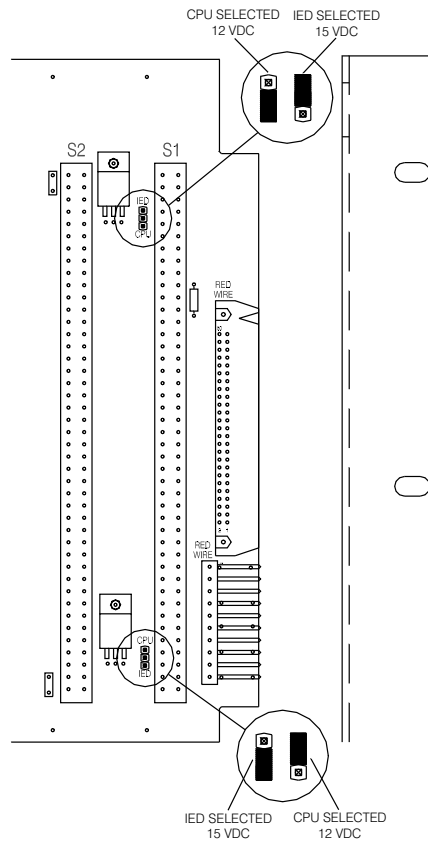
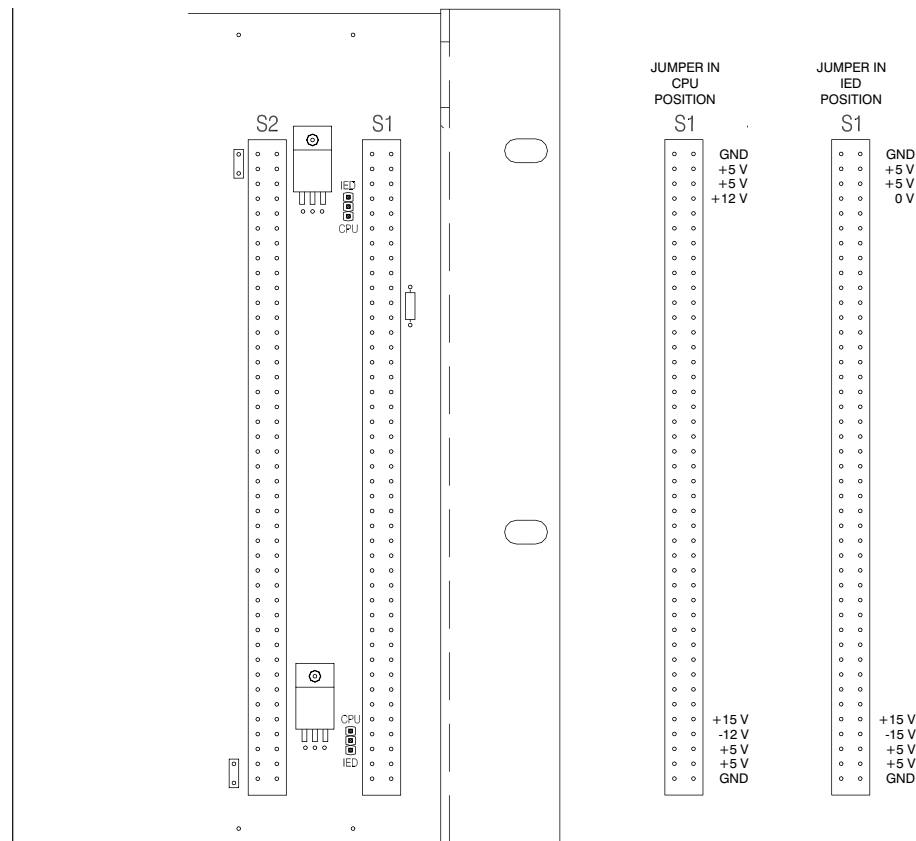

Figure 1 - CPU Card Voltage Jumpers on 500M Motherboard near slot 13
Figure 2 - CPU Card Voltages
6. The 500M has 13 usable slots. The card slots are numbered from 1 to 13 with slot 1 being on the left as viewed from the front. Slot 13, the rightmost slot is the only slot in which the 510CPU can be mounted. The 510CPU requires ± 12 VDC. All other cards in the system operate on ± 15 VDC. To prepare slot 13 for the 510CPU card, two jumpers must be placed in the CPU position. See Figure 1 for location of the jumpers. **If the CPU is plugged into slot 13 with the jumpers in the IED position, or if it is plugged into any other slot, the card will be damaged and the warranty will be voided.** As a precaution, the 510CPU can be removed from the system and voltages on the card edge connector can be measured to be sure that the proper voltages are present in the 510CPU connector. See Figure 2 for the locations of voltages which can be measured. If the 500M is being used as an expansion mainframe, the jumpers should be set in the IED position so that other function cards such as the 500C or 500D cards can be used in this slot.
6. The 500M has 13 usable slots. The card slots are numbered from 1 to 13 with slot 1 being on the left as viewed from the front. Slot 13, the rightmost slot is the only slot in which the 500CPU-486 can be mounted. The 500CPU-486 requires ± 12 VDC. All other cards in the system operate on ± 15 VDC. To prepare slot 13 for the 500CPU-486 card, two jumpers must be placed in the CPU position. See Figure 1 for location of the jumpers. **If the CPU is plugged into slot 13 with the jumpers in the IED position, or if it is plugged into any other slot, the card will be damaged and the warranty will be voided.** As a precaution, the 500CPU-486 and the 500P cards can be removed from the system and voltages on the card edge connector can be measured to be sure that the proper voltages are present in the 500CPU-486 connector. See Figure 2 for the locations of voltages which can be measured. If the 500M is being used as an expansion mainframe, the jumpers should be set in the IED position so that other function cards such as the 500C or 500D cards can be used in this slot.